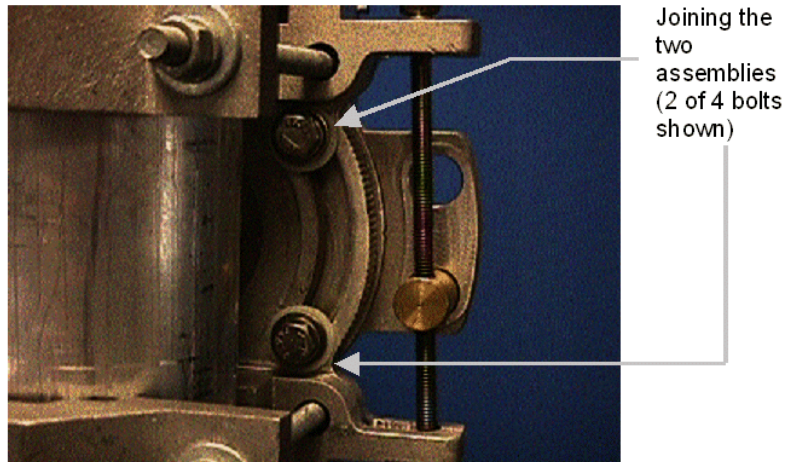

Figure 9-9: Attaching Elevation Assembly to Pole Mount Assembly
3. Referring Figure 9-9, attach the elevation assembly to the pole mount assembly using four flat washers, split lock washers, nylon washers and hex bolts.